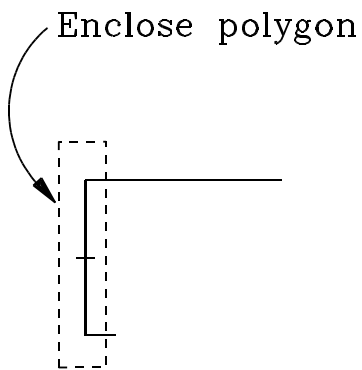

Figure 5
23. Click on ENCLOSE, and place the rubberband box around the polygon that you created in steps 3-5, and the point in step 7, in the top or front view. Do not select the lines that you just created. (Figure 5 shows the enclosed polygon in the top view).